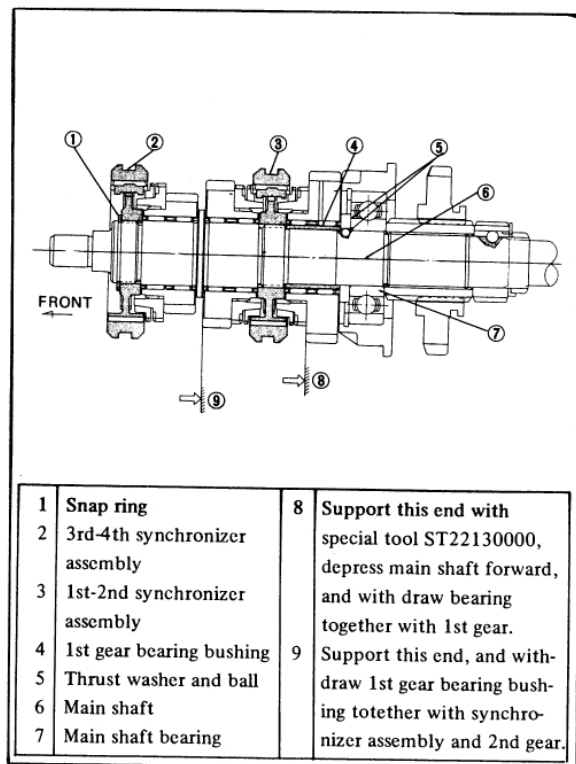

Fig. TM-18 Cross-sectional view of main shaft gear
15. When removing main shaft gear, apply the front end of 1st gear to bearing puller (special tool ST22130000), and withdraw bearing retainer ⑩, 1st gear ⑦ and thrust washer ⑨ simultaneously by using a press. See Figure TM-18.